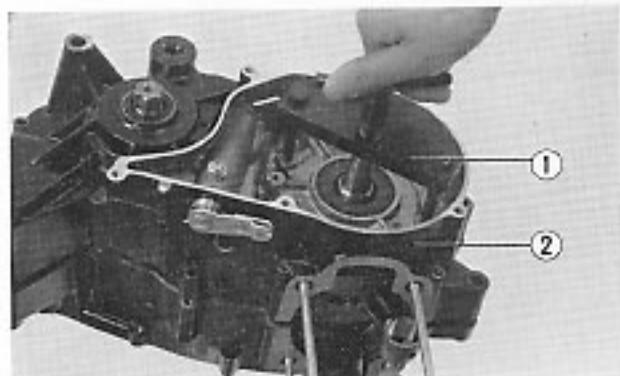

Fig. 3-28 ① Crankcase disassembly tool
② Countershaft
- Bolt the crankcase disassembly tool (tool no. 07937-3570000) to the left crankcase as shown in Fig. 3-28. Turn the screw of the tool against the end of the crankshaft to separate the cases.